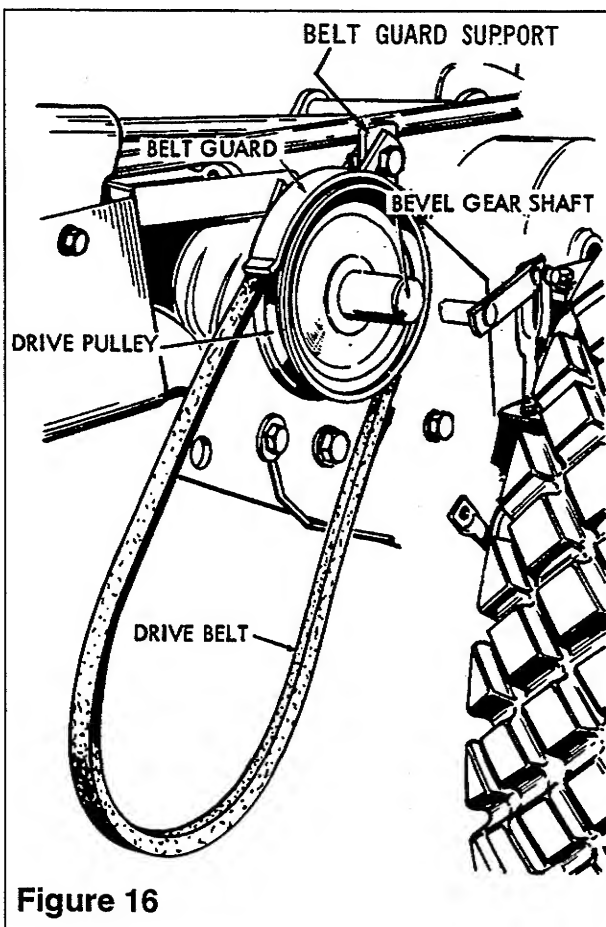
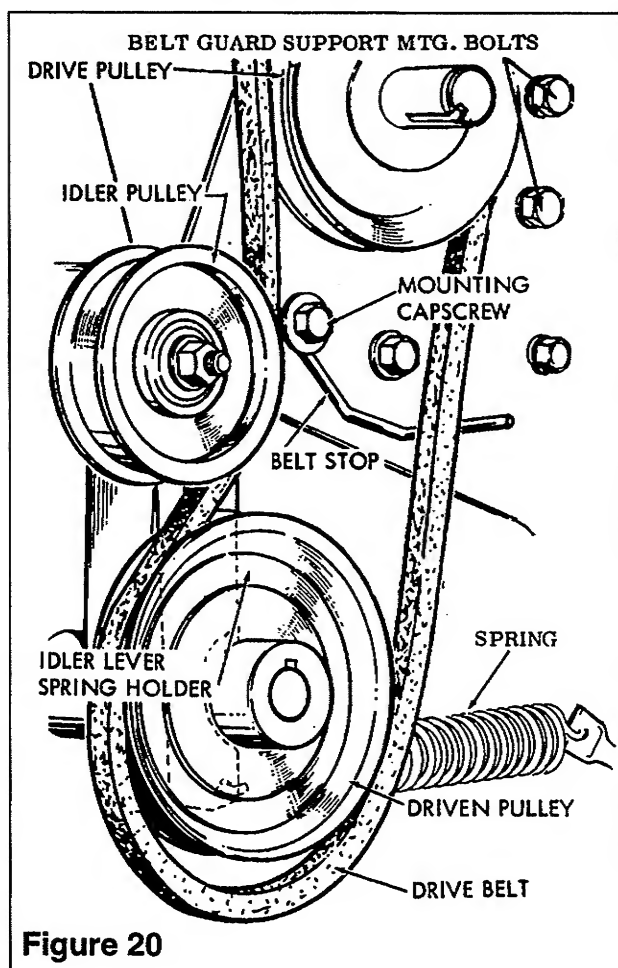

Figure 16
Figure 20
1. Mount Drive pulley to shaft of bevel gear assembly (See Figure 16) and secure in place with key and set screw. Hub of Drive pulley is to face inward. Place drive belt on Drive pulley and mount belt guard support to inside surface of side plate nearest drive pulley. See Figure 20 for mounting bolt location. Attach the belt guard to the guard support as shown in Figure 16. Allow approximately $\frac{3}{16}$ " clearance between belt and guard.
5. Remove Front Hex. Cap Screw from Pull Bar. Replace with stud 157273 provided. Short end inserted. Slip on Handle Assembly and tighten with Hex Head Lock Nut to permit free movement of handle. Mount "V" Belt in place on driven pulley as shown in Figure 20 and attach spring to hole provided in the bottom of the Bracket Assembly. Hook other end of the spring to the Handle Assembly. Mount Belt Stop as shown with 3/8" Bolt, Flat Washer, Lock washer, and Hex. Nut. When Implement is attached to tractor with Idler Pulley engaged, 1/8" clearance between Belt Stop and back of "V" Belt is required. NOTE: "V" Belt runs under Idler Pulley. See Figure 20.